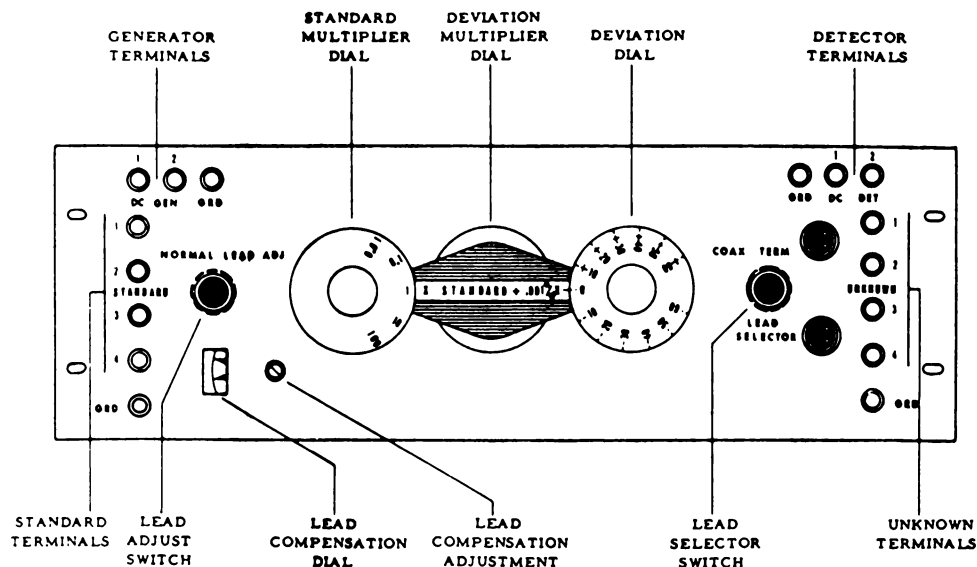
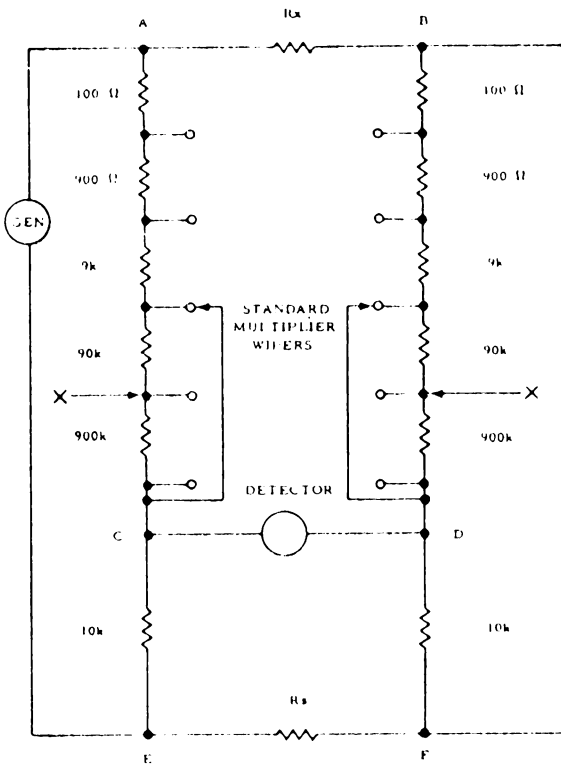
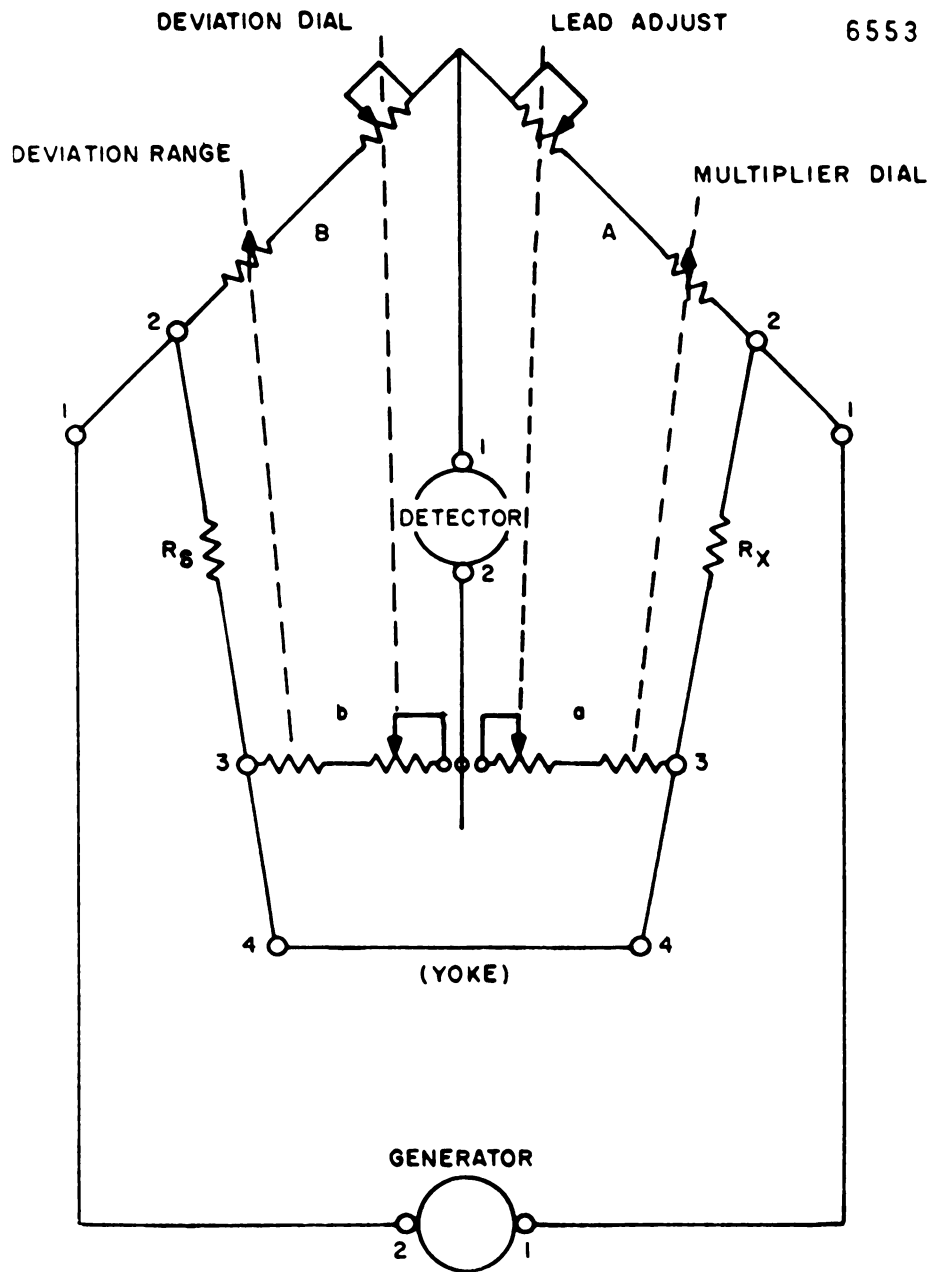
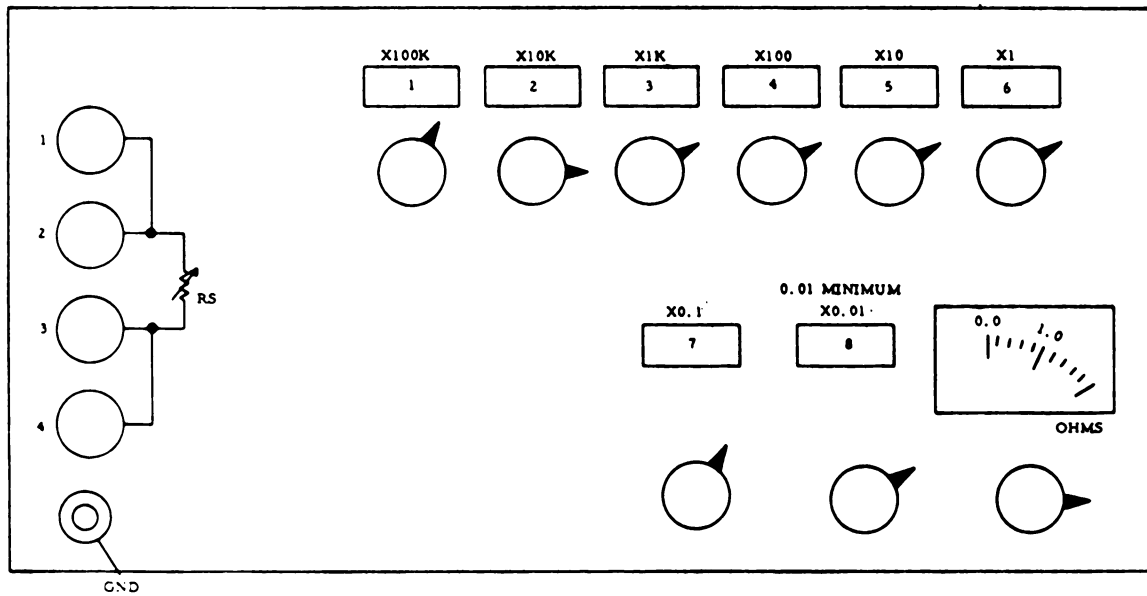

Figure 1-3. Kelvin ratio bridge panel.
Figure 1-5. Multiplier control circuit.
Figure 1-6. Kelvin ratio bridge.
Figure 1-8. Resistance standard panel controls.
**Kelvin Ratio Bridge.** The Kelvin-Varley principle is applied when two nearly equal resistances are compared. The panel controls for the Kelvin ratio bridge used with the electrical standards console are shown in figure 1-3.
The ratio bridge operates with a special lead compensator, which is an integral part of the instrument, and a resistance standard such as the model RS925 decade resistance. The controls used for lead compensation are identified in figure 1-3. Their functions will be explained later. The terminals used for connecting the standard resistance to the bridge are also identified in figure 1-3. Once the instrument has been mounted in the console rack, the leads which connect these terminals to the decade resistance standard will remain connected.
**Standard Multiplier Controls.** The standard multiplier control shown in figure 1-3 can produce ratios of 0.01:1, 0.1:1, 1:1, 10:1, and 100:1, as indicated on the dial, by positioning the multiplier wiper as shown in figure 1-5.
In figure 1-5, you can see that if the wipers are positioned as indicated, the 90k and 900k resistors are shorted out, and the total resistance from A to C or from B to D is 10k. This means that the ratio of AC/CE or DB/DF is 10k/10k, or 1:1. At this time, the standard multiplier control will be in the 1 position. If the wipers are moved to the positions indicated as X in figure 1-5, the resistance shorted will now be 900k, and the total resistance A to C or B to D is 100k. This means that the ratio of AC/CE or BD/DF is now 100k/10k, or 10:1. At this time, the standard multiplier control will be in the 10 position. The additional ratios 0.01:1, 0.1:1, and 100:1 are obtained in the same manner.
**Exercises (204):**
1. In figure 1-5, if none of the resistors are shorted out, and the value of the standard resistor is 47 ohms, what is the value of the unknown resistor, RX?
2. Which resistors in figure 1-5 are shorted out when the ratio selected is .01:1?
**Lead Compensation.** Referring to figure 1-3, you can see that the Kelvin ratio bridge used with the electrical standards console has the circuits necessary for lead compensation. The front panel of the ratio bridge has a two-position lead adjust switch mounted on the left side. To minimize errors caused by leads, this switch is placed in the LEAD ADJ position. The lead selector switch located on the right side of the same panel should be positioned as appropriate for the type of lead used in a given measurement. Both of the lead compensation controls discussed and the lead compensation (screwdriver) adjustment control are electrically combined to form a Wheatstone bridge which is capable of measuring test lead resistance. The lead compensation circuit is an integral part of the bridge measuring circuit and therefore is not removed.
Figure 1-6 illustrates the Kelvin ratio bridge circuit in the 240. Compare this circuit with the one shown in figure 1-4,B. The terminals marked 1 through 4 correspond to the terminals illustrated in figure 1-3 used for connection of the standard and unknown resistances.
the lead selector switch shown in figure 1-3. Place this switch in the COAX position.
When Kelvin leads are used in a measurement, you must remember that the two leads are connected internally to the 1 and 2 posts of the unknown terminals on the front panel of the 240 ratio bridge. This connection is made by a special female two-hole plug mounted on the right side of the instrument panel. This plug is shown in figure 1-3.
**Variable Resistance Standard.** The operation of the Kelvin ratio bridge requires the use of an accurate resistance standard, such as the model RS925. The RS925 is selected because of its construction, its accuracy, and its adaptability to the console. Resistance standards of like construction and accuracy can be used. It should be understood at this point that the RS925 or similar standard, when used with the Kelvin ratio bridge, becomes the RS (resistance standard) illustrated in figures 1-4,A, 1-4,B, and 1-5. The front panel controls and the equivalent circuit for a typical wide range four-terminal decade resistance standard are shown in figures 1-8, 1-9, 1-10, and 1-11.
When you combine the circuits shown in figures 1-8, 1-9, and 1-10, you will have an equivalent measurement circuit for determining the value of an unknown resistor using a ratio bridge such as the Kelvin 240 and a resistance standard such as the RS925. The composite equivalent measurement circuit is shown in figure 1-3.
Figures 1-8, 1-9, 1-10, and 1-11 are included so that you can see how the functions of three instruments, typical of those used with the electrical standards console, are